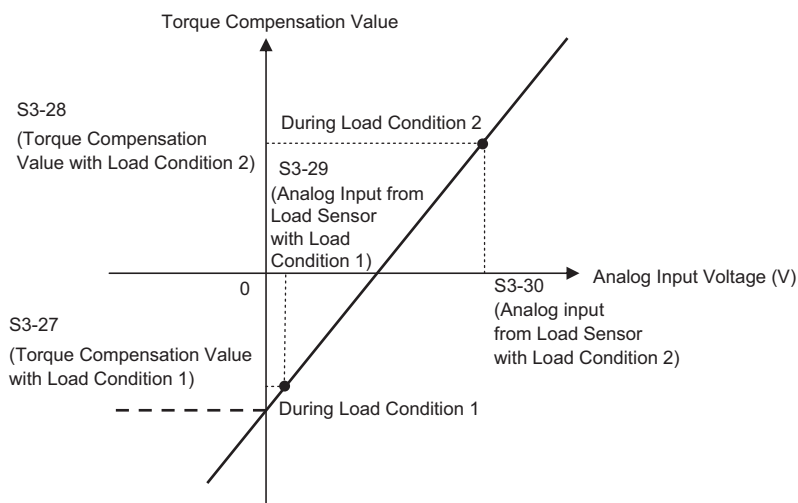

Figure 4.19 Torque Compensation at start for the Elevator in Up and Down Direction
Figure 4.19 shows the Torque Compensation at Start settings with parameters S3-27 to S3-30.
The solid line in Figure 4.19 indicates the torque compensation at start when the elevator moves up or down.
- PRG: 7016 or later have no torque compensation limit when adding negative voltage to analog input voltage (see Figure 4.19).